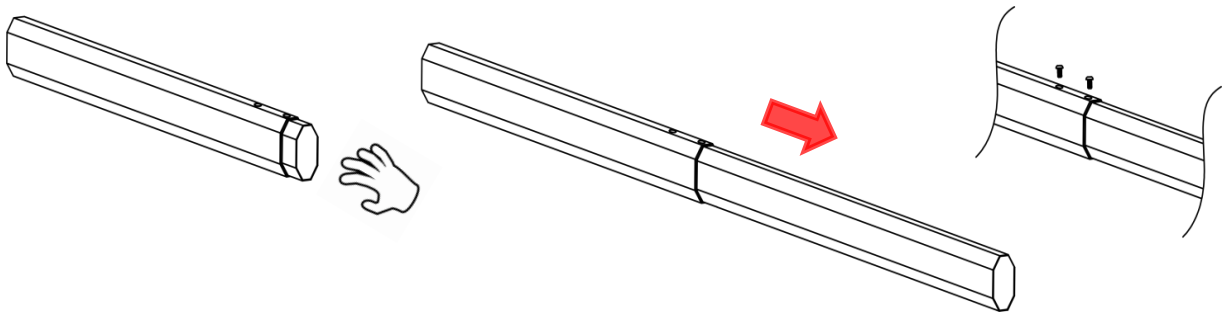

Figure 3-1 Connect the main boom with vice together by 2 screws
- Pull the vice boom out from the main boom, then fastened by 2 screws, as shown in Figure3-1.